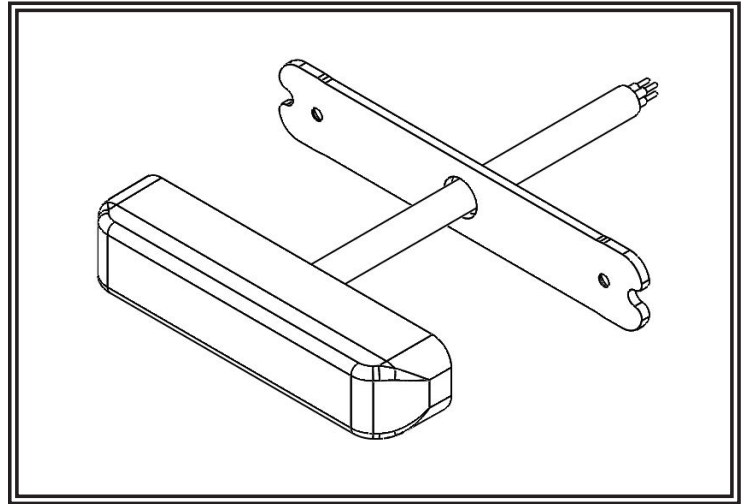

Figure 1
Step 1. Run the cable of the light head through the center hole of the backplate bracket. The countersunk holes should be facing away from the light head. Secure the backplate bracket to the light head using the two M2.5x10mm flathead screws (not shown). See Figure 1.